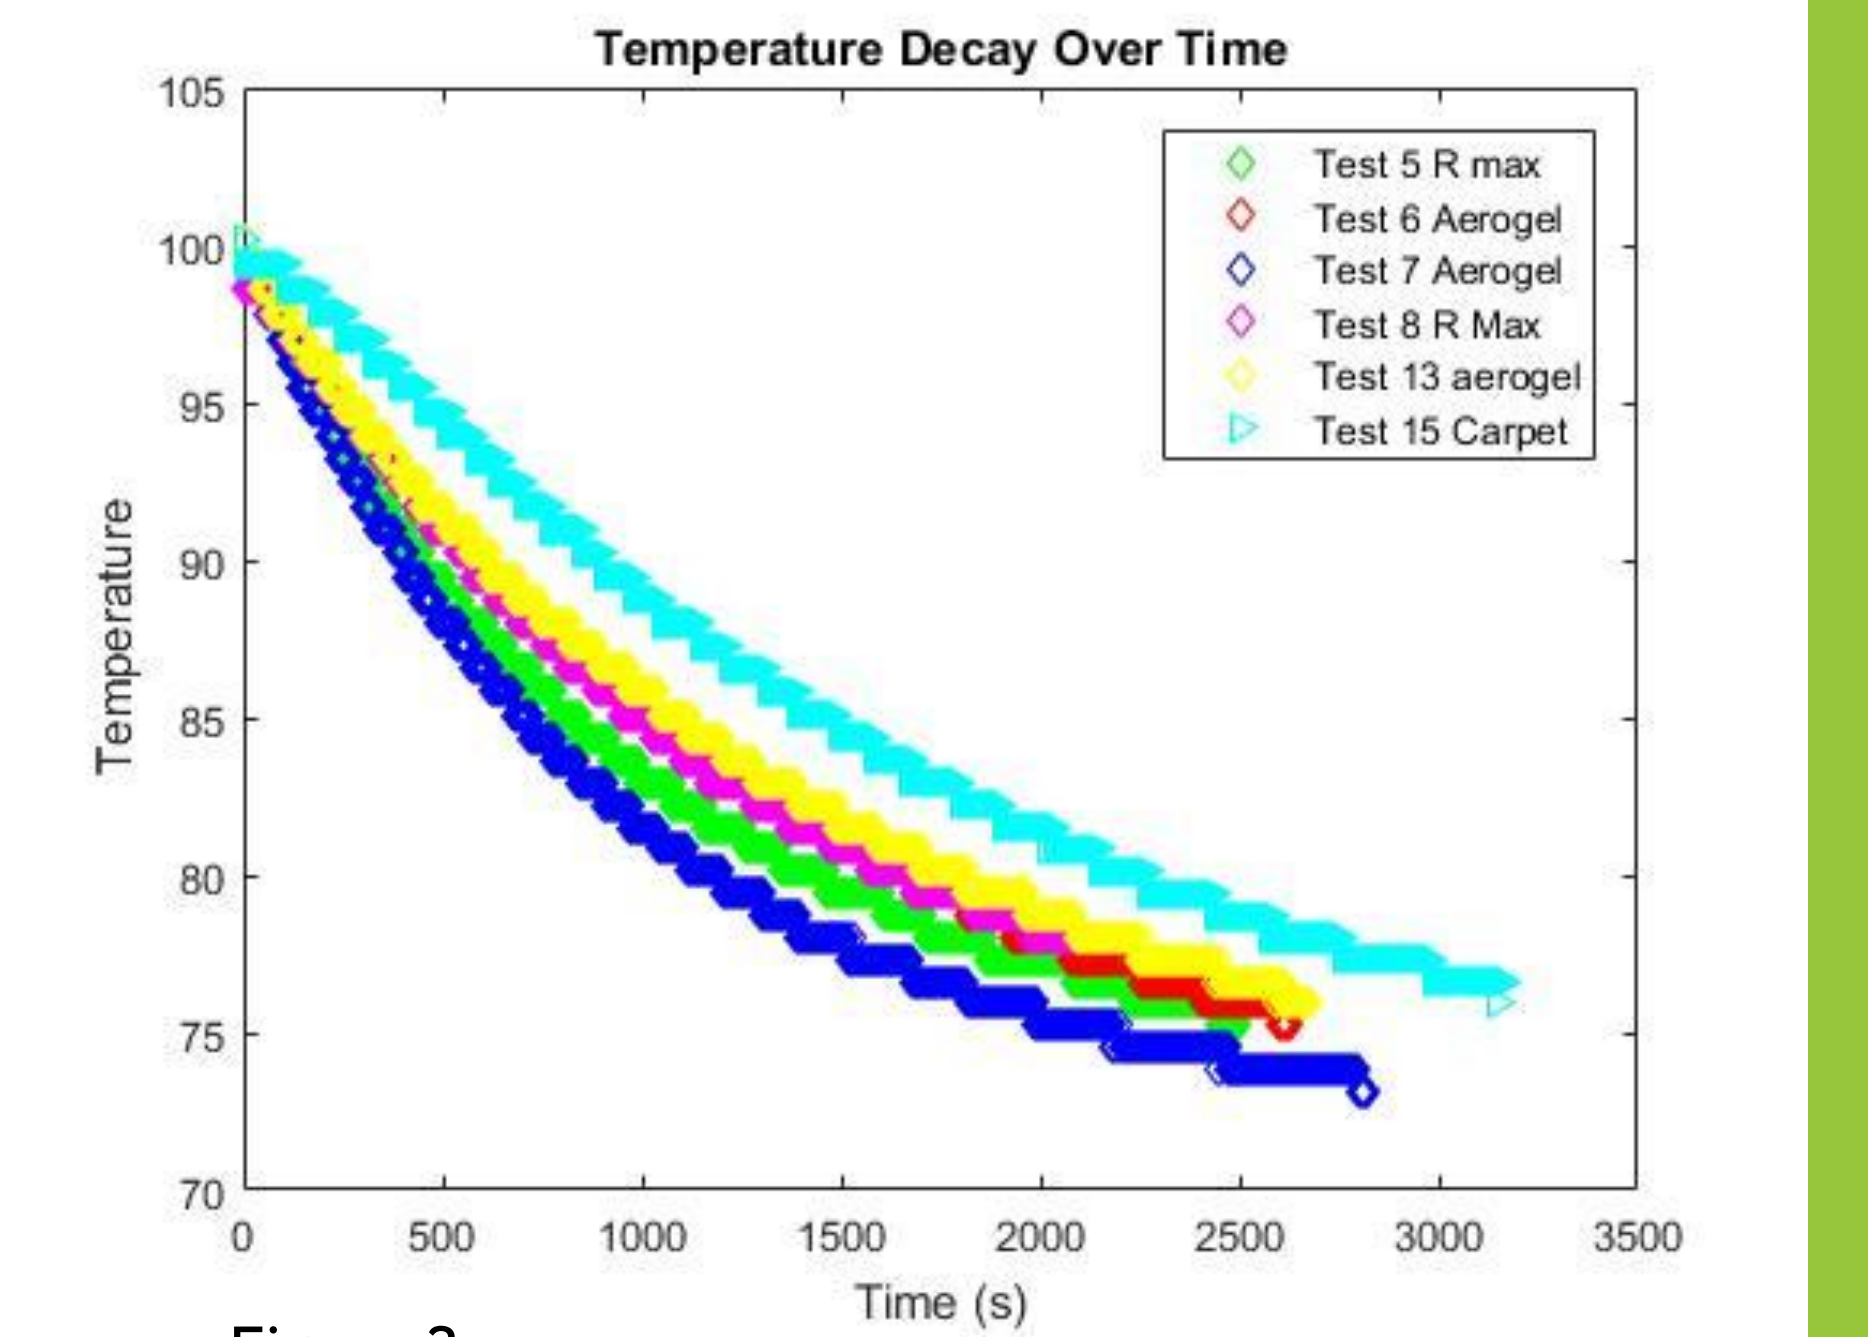

Figure 2
- Figure 2 illustrates a comparison of temperature decay over time for various insulation types. The upper curve indicates a more effective insulation.